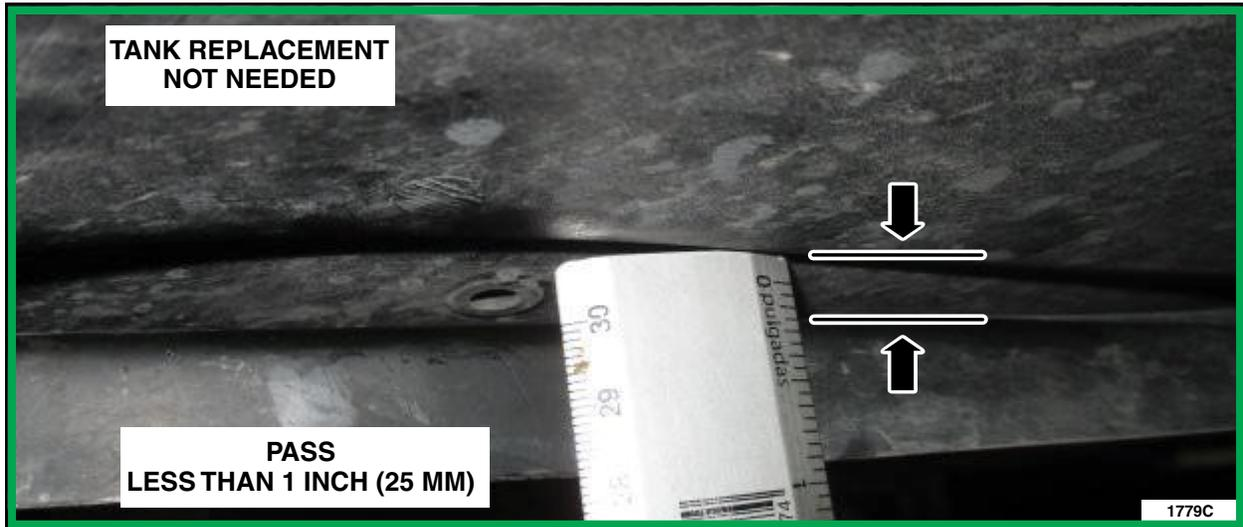

FIGURE 1
6. Inspect fuel tank for signs of excessive deformation (up to 25mm or 1 inch upward is acceptable). See Figures 1 and 2. Replace the fuel tank and fuel delivery module only if gap is greater than 1 inch upward. Please follow the WSM procedures in Section 310- 01.
- a. Digital images are now required to be attached to each fuel tank part order. Before submitting VIN-specific part order to SSSC, review new digital image submission requirements on pages 3-4 of Attachment II in the Dealer Bulletin. See Figures 1 through 6 for examples.